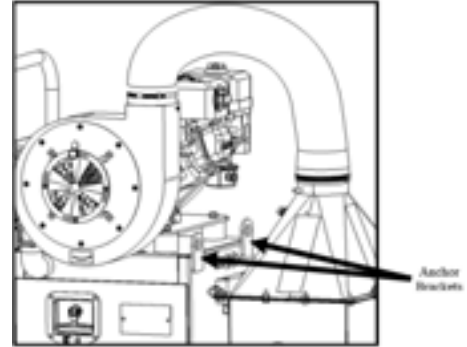

Figure 4
- d. Use the anchor brackets attached to the side of the unit (Fig. 4)